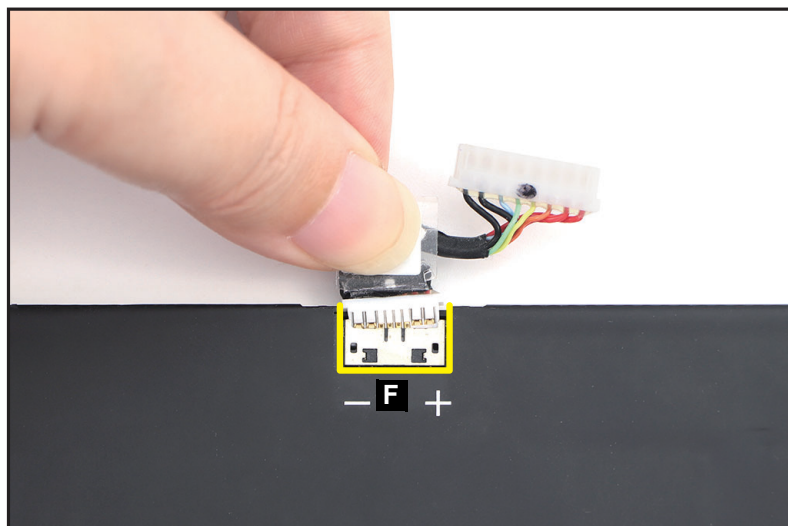

Figure 1-10. Battery Pack Removal
5. Disconnect the battery cable from the battery connector (F) (Figure 1-10). Then remove the battery cable.